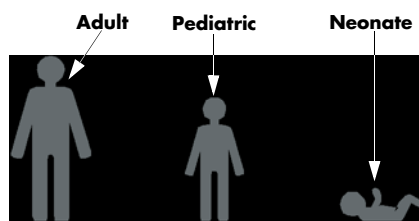

FIGURE 3-6 Patient Size Graphics and Indicators (21)
The Patient size indicator (21) illuminates to indicate the selected size as shown in FIGURE 3-6. The factory default Patient Size setting is Adult.